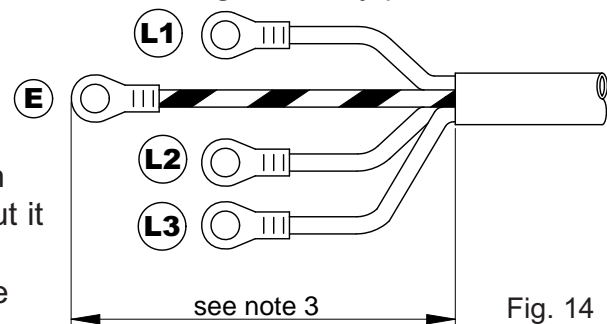

Fig. 14
3. a) Strip and prepare the cable and insulators as shown in Fig 14. The length requirements of the conductors will vary in accordance with the chosen terminal box orientation (see note 2) but it must always be ensured that the final prepared conductor lengths, ensure the earthing conductor to be the last to be stressed and disassembled in the event of the cable being inadvertently pulled from the box.